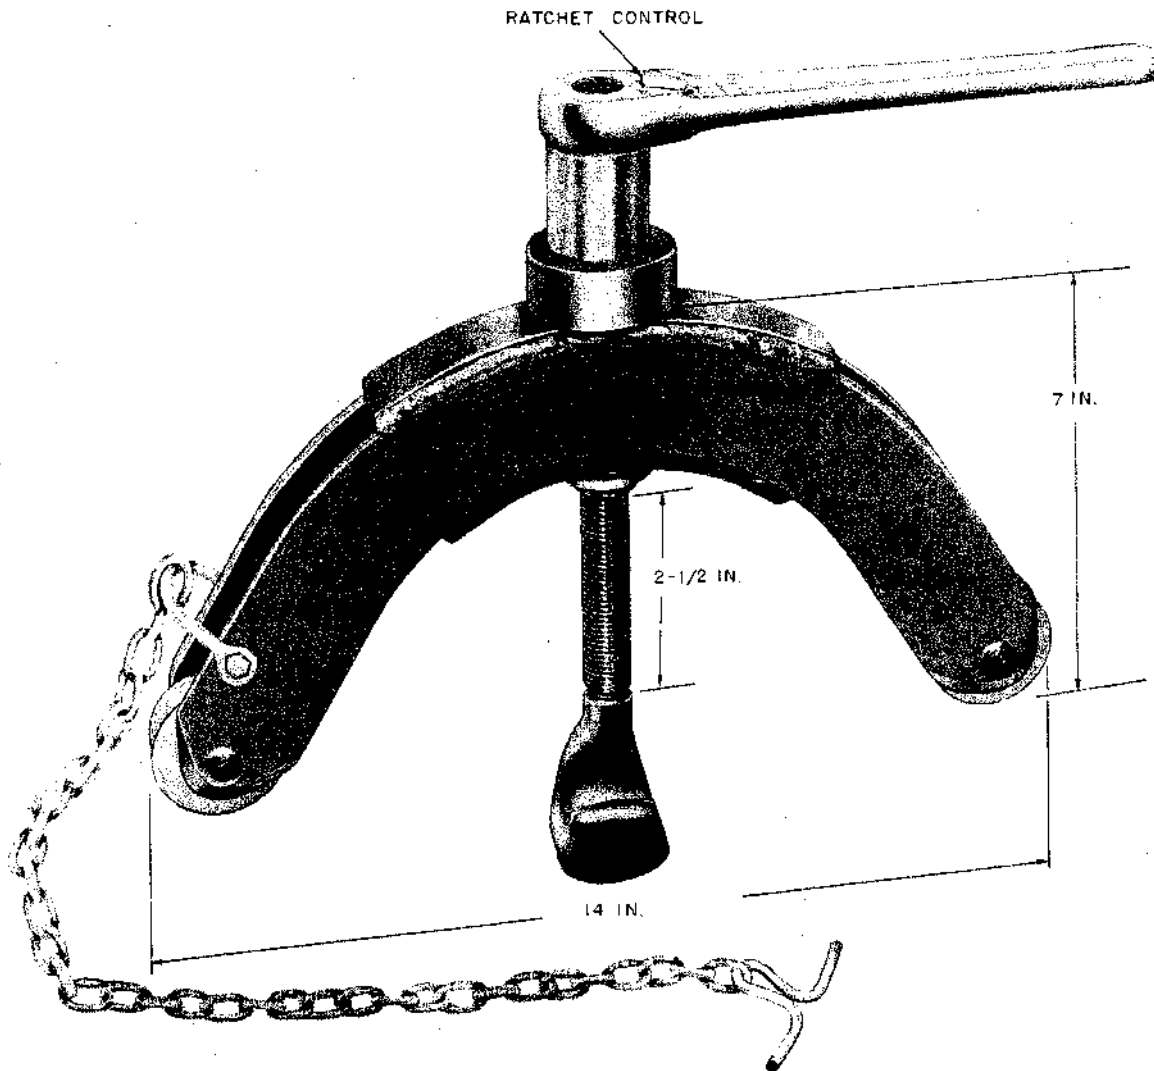

Fig. 1—F Slack Puller
2.01 ♦The F slack puller consists of a welded-steel arch-shaped frame supporting grooved rollers at each end, a lifting screw assembly, and a ratchet handle (Fig. 1). Attached to the frame is a shackle and safety chain to prevent accidental dropping from the strand.♦
3.01 Slack pullers which are superseded but still in use are discussed below. All have approximately the same dimensions indicated in Fig. 1 for the F puller.